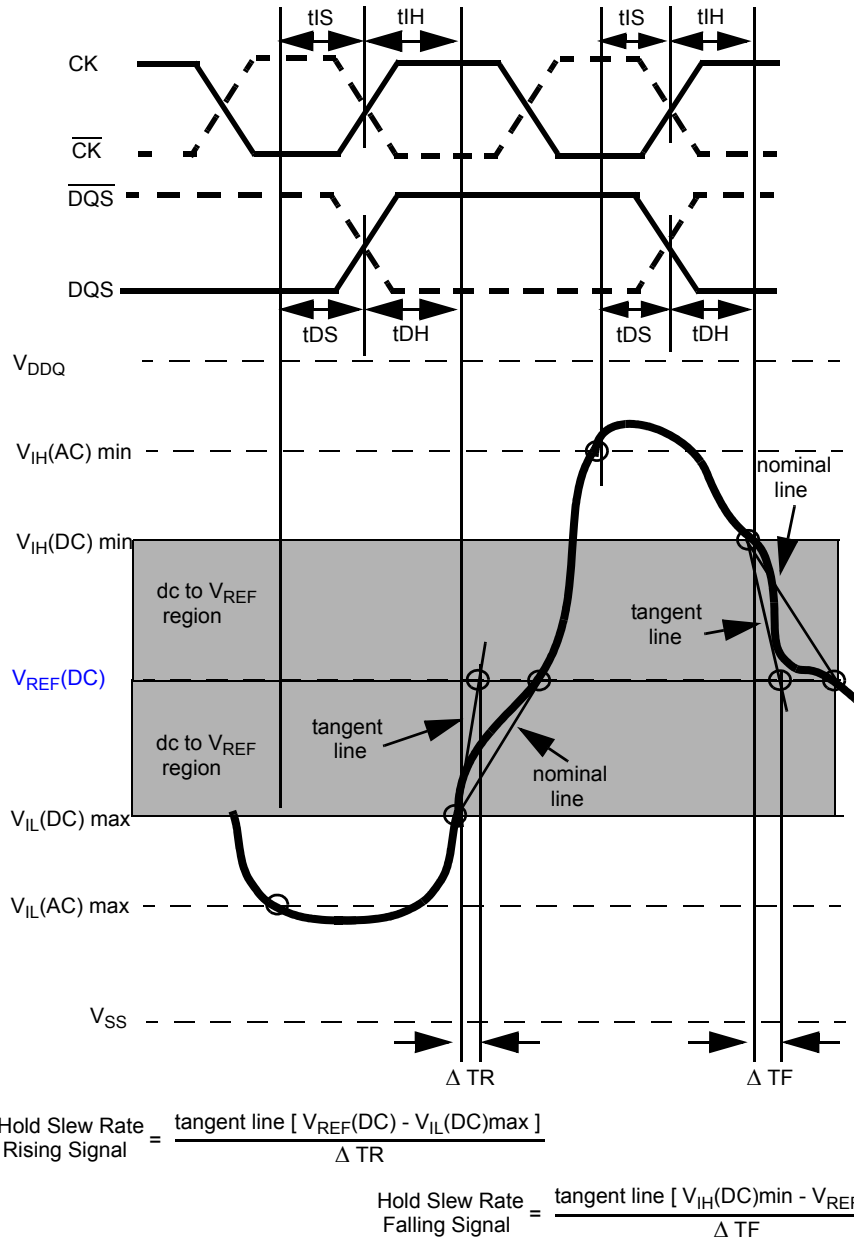

Figure 28. Illustration of tangent line for hold time  $t_{DH}$  (for DQ with respect to strobe) and  $t_H$  (for ADD/CMD with respect to clock)
Hold (tDH) nominal slew rate for a rising signal is defined as the slew rate between the last crossing of VIL(DC)max and the first crossing of VREF(DC). Hold (tDH) nominal slew rate for a falling signal is defined as the slew rate between the last crossing of VIH(DC)min and the first crossing of VREF(DC) (see Figure ). If the actual signal is always later than the nominal slew rate line between shaded 'dc level to VREF(DC) region', use nominal slew rate for derating value. If the actual signal is earlier than the nominal slew rate line anywhere between shaded 'dc to VREF(DC) region', the slew rate of a tangent line to the actual signal from the dc level to VREF(DC) level is used for derating value (see Figure 28).